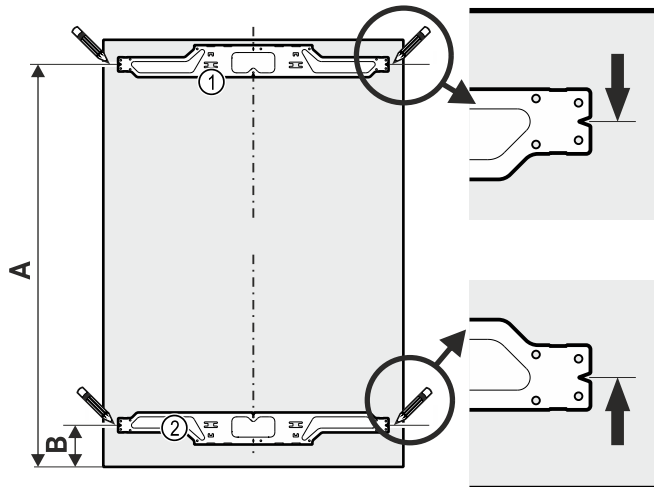

Fig. 29
- ▶ Mark the line at the specified distance Fig. 29 (A).
- ▶ Mark the line at the specified distance Fig. 29 (B) from the bottom edge of the cabinet front.
- ▶ Align the top mounting bracket Fig. 29 (1) with the specified distance Fig. 29 (A) and fasten it using at least six 4x14 screws.
- ▶ Align the bottom mounting bracket Fig. 29 (2) with the specified distance Fig. 29 (B) and fasten it using at least six 4x14 screws.